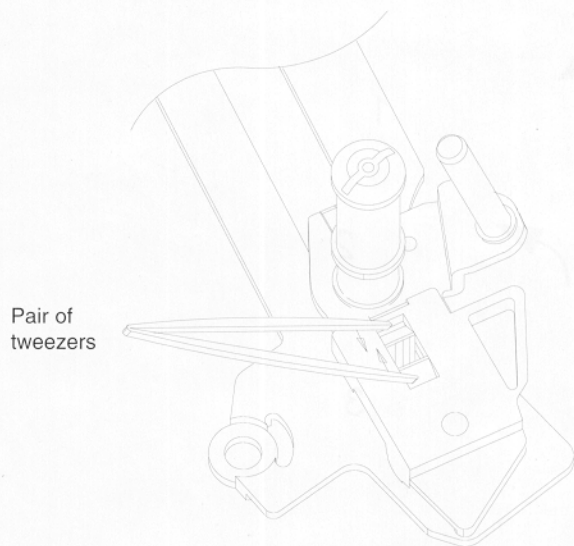

Fig. DM 7
- Compress the two snap hooks with a pair of tweezers and remove the roller assembly from the roller unit (see fig. DM 7).